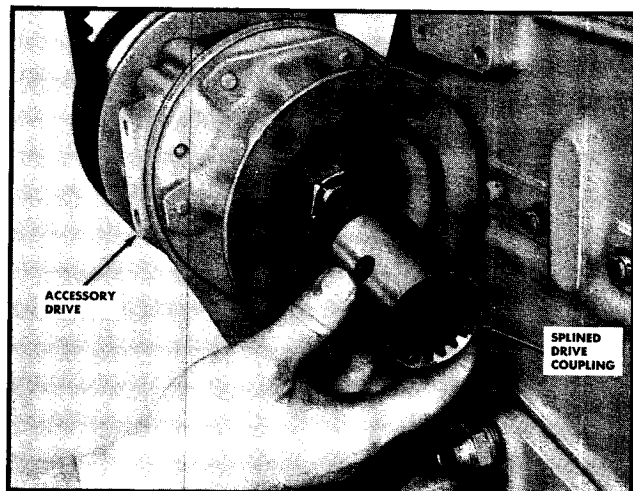

Fig. 12-78. Installing splined coupling
1. Assemble spline drive coupling to air compressor or accessory drive. Fig. 12-78.